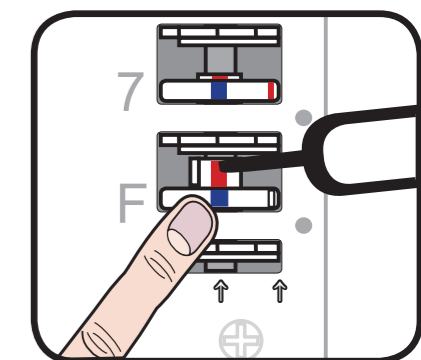

Fig.3
2. Whilst holding the inner gear the coding disk can be rotated using your finger. Rotate the disk until the blue line of the coding disk is in alignment with the centre line arrow and red line of the inner gear (as per fig.3).